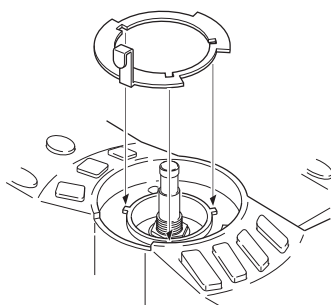

Fig. 1
1. Insert the torque changeover lever into the mounting location so that the three tabs align with the torque changeover slots. (Fig.1)